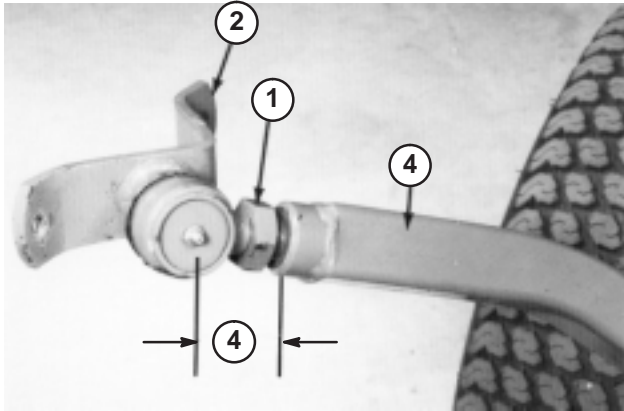

Figure 10
2. Screw ball joint into right hand push arm until center of ball joint is 2-3/8 in. (60 mm) away from front of push arm (Fig. 10). Do not tighten jam nut.